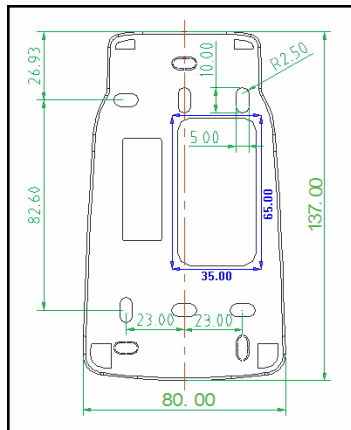

Figure C-3 Diagram of the Hole Locations in the Mounting Plate
6. Drill mounting holes in the wall corresponding to the hole locations of the terminal's mounting plate. A diagram of the mounting plate's dimensions (values are shown in Metric units) is shown in **Figure C-3**.